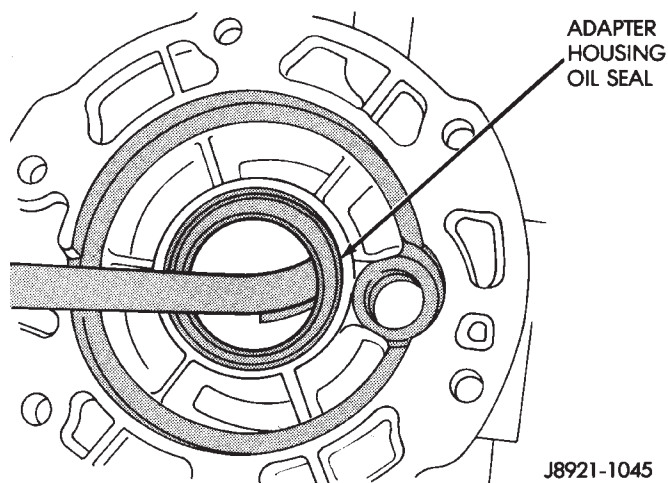

Fig. 14 Remove Adapter Housing Seal
- (1) Hoist and support vehicle.
- (2) Remove transfer case.
- (3) Using a suitable pry tool, or a slide hammer mounted screw, remove the adapter housing seal (Fig. 14).